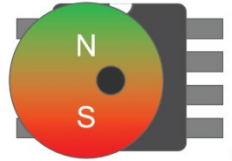

Figure 22. Magnet Axis Displacement Error
- ▶ Magnet axis displacement error. This is caused by an incorrect centering of the magnet and the axis of the rotating shaft. See Figure 22.